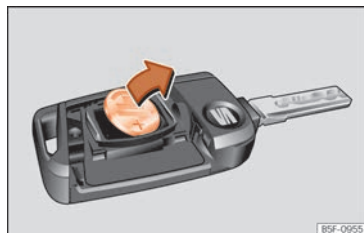

Fig. 88 Vehicle key: removing the battery.
- Extract the battery from the compartment using a suitable thin object »» Fig. 88.
- Place the new battery in the compartment as shown »» Fig. 88, pressing in the opposite direction to that shown by the arrow »» ❷.